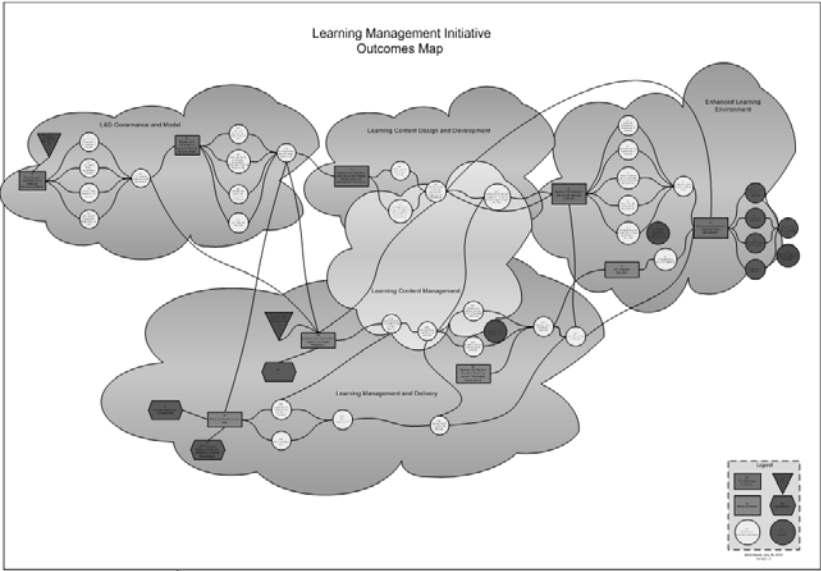

Figure 1: Outcomes map.
- The resulting outcomes map (see Figure 1) identified the required portfolio of initiatives that we would have to undertake and what each initiative would need to accomplish, as well as the order in which we would execute them.
While the original plan had only called for the procurement and installation of the LMS along with data migration, the creation of an outcomes map identified a considerably richer and detailed set of strategic initiatives that would be necessary to realise success at a business level, as can be seen in Figure 1 and in the list of value streams under “Implementation” below. Initiatives are depicted as boxes, assumptions as triangles, and outcomes as circles. The “clouds” are used to represent value stream areas — note the overlaps.